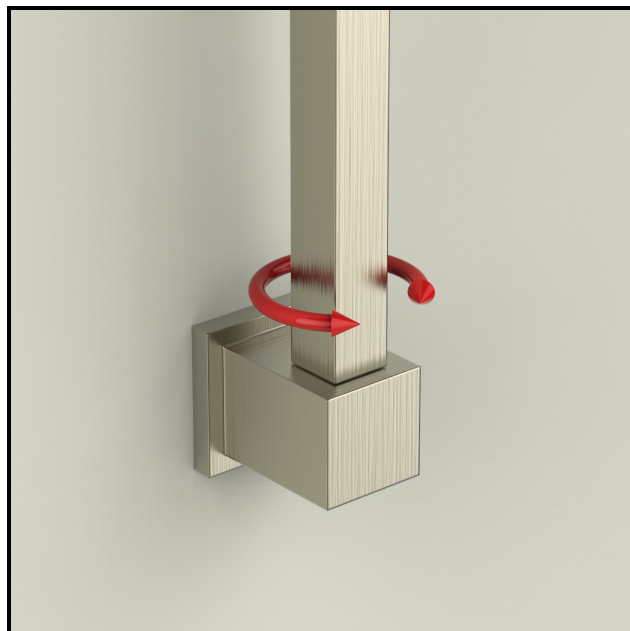

Figure 1
- The light bar may be rotated 140 degrees in each direction after installation, but by default, the fixture is assembled so that the light is primarily focused on the wall (Figure 1). If this is the desired direction, skip directly to STEP 4.